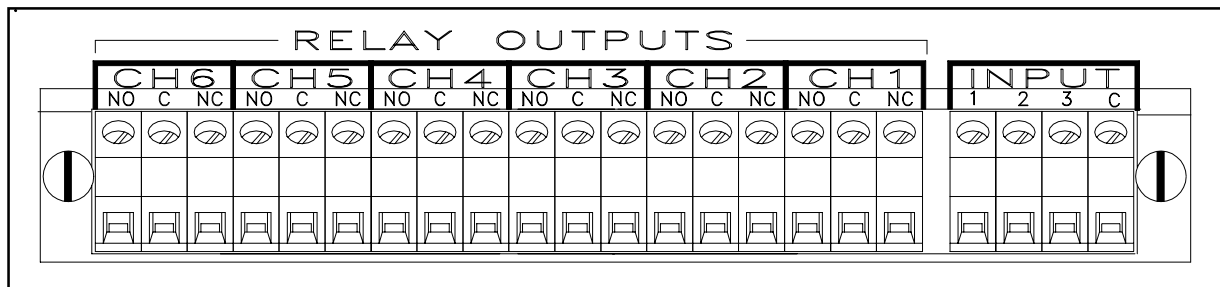

Figure 2-10 Digital I/O Connections
The Recorder may be equipped with an optional Digital Input Output Board which has six potential free Form C relay contacts and three opto-isolated digital inputs. A terminal block as shown in Figure 2-10 below, is provided for the six-alarm output **Potential Free Form C connections: normally open (NO), common (C), and normally closed (NC)**, and the three digital inputs which share a common. The relay contacts are capable of switching **250 VAC ~ at 3 Amp or 30 VDC at 3 Amp**. **An Output Board with three potential free Form C relay contacts and NO digital inputs is also available (not shown).**